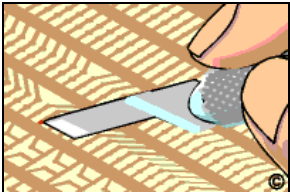

Figure 3: Scrape off the bonding film from solder joint area on the back side.
7. Before trimming out the new BGA pad carefully scrape off the bonding film from the solder joint connection area on the back side. (See Figure 3).